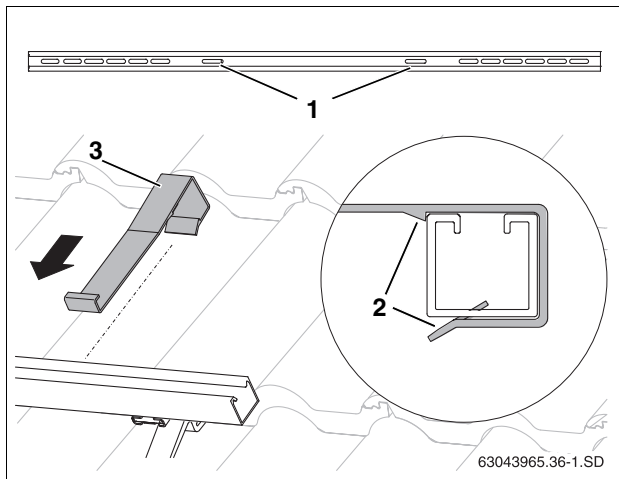

Fig. 31 Attaching collector hanger
- ▶ Install the collector hanger (Fig. 31, [3]) at the innermost slotted holes (Fig. 31, [1]) on the lower horizontal rails until it snaps into place (Fig. 31, [2]).